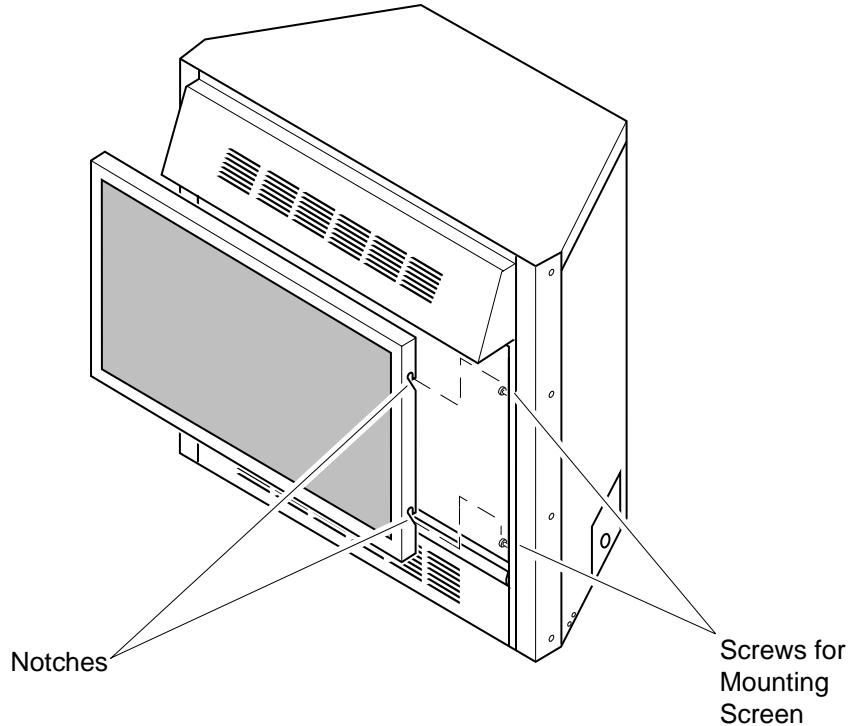

Figure 24 - Installing Fireplace Screen
5. Install fireplace screen by slipping notches of fireplace screen over screws on front of fireplace (see Figure 24).